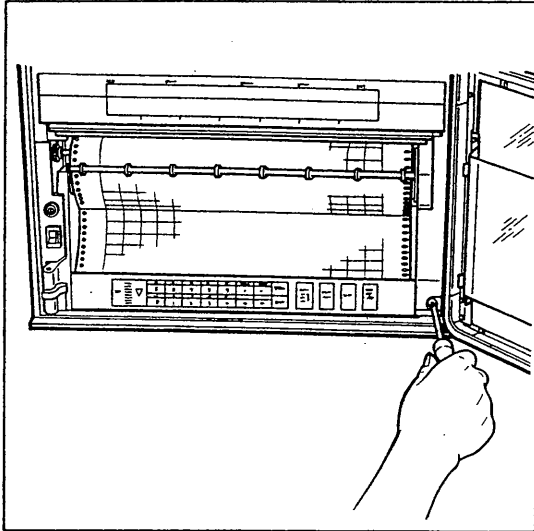

Figure 6-1. Unlocking Internal Assembly.
- (1) Open the recorder front door and remove the internal assembly lock screw with a Phillips screwdriver (see Figure 6-1).